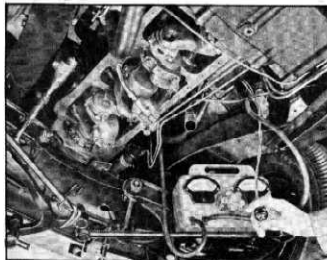

Fig. 29—Main Bearing Adjustment—Ammeter
3. Attach remote control switch to starter and then turn control handle of Battery Capacity Tester to starter position and check stabilized cranking load. Record this reading as it will be the base for the bearing adjustment (fig. 29).